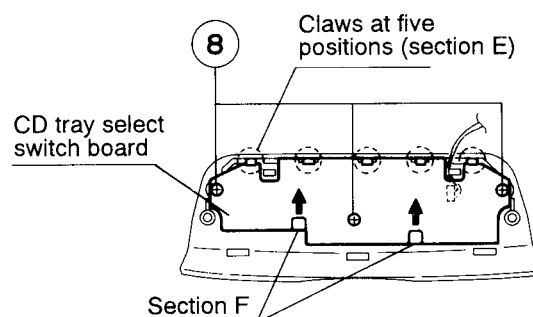

Fig. 5-9
4. Remove three screws ⑧ securing the CD tray select switch board assembly (Fig. 5-9).
5. Release five claws in section E which secure the CD tray select switch board (Fig. 5-9).
6. Remove the CD select switch board by shifting two claws in section F in the direction shown with the arrows (Fig. 5-9).